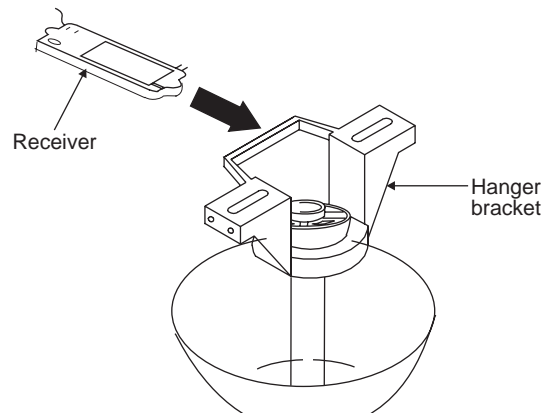

Figure 12
Step 1. (Fig. 12) Insert the receiver into the mounting bracket with the flat side of the receiver facing the ceiling.